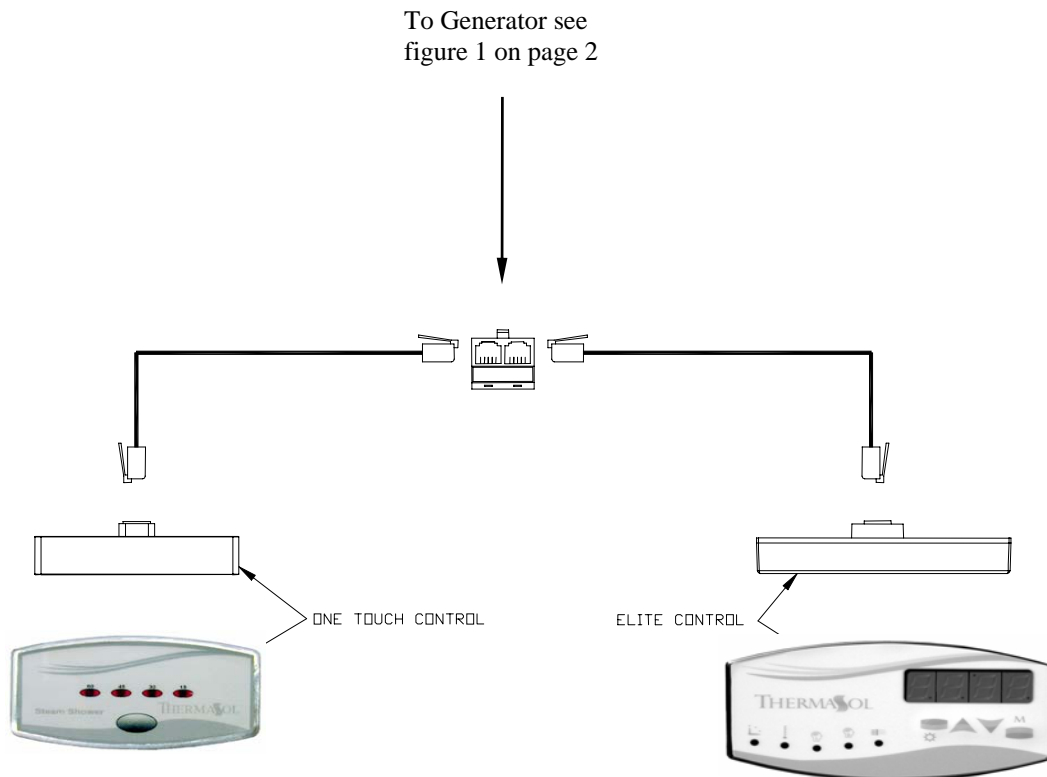

Figure 12
4. Run cables from the controls to the steam generator and carefully connect to the phone jack splitter just installed to the generator. Either control cable can connect to either of the two plugs, see figure 12.